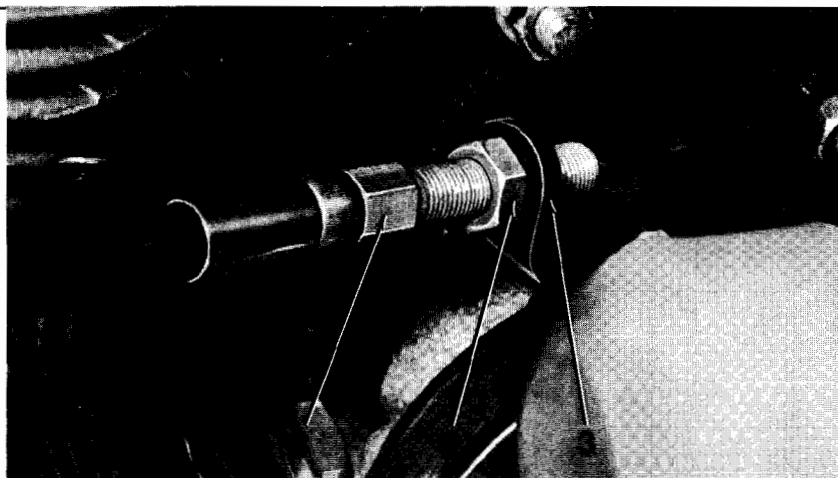

Figure 4-2. Adjusting Clutch
ADJUSTING FOOT CLUTCH CONTROL (Figure 4-2)
ADJUSTING HAND CLUTCH CONTROL (Figure 4-2)
Loosen control coil adjusting sleeve lock nut (2) (Figure 4-2) and turn control coil adjusting sleeve (1) all the way into bracket. Remove chain housing cover, loosen clutch push rod screw lock nut (4) and turn screw (5) in (clockwise) to remove lever (8) to the rear, or outward (counterclockwise) to move end of lever forward. When 1/2 inch clearance between lever and starter motor has been attained, tighten lock nut (4) and reinstall chain housing cover.
If the clutch slips after adjusting clutch controls, increase spring tension on the three clutch spring guide stud nuts (6, Figure 4-2). Remove chain housing cover and tighten all three nuts one-half turn at a time until clutch holds. Test after each half turn by cranking the engine. Usually a clutch that holds without noticeable slipping when cranking the engine will hold under normal road conditions. Do not increase spring tension any more than is necessary to make clutch hold.